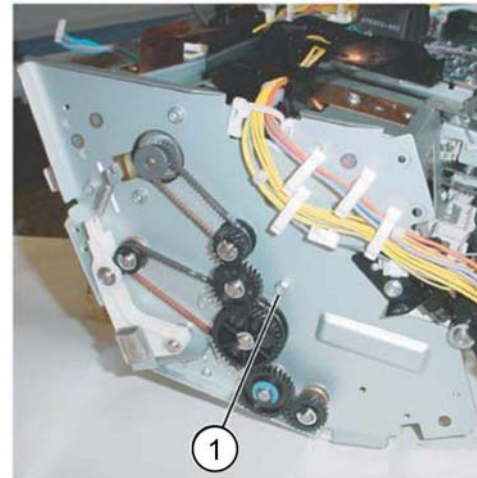

Figure 6 Rear screw removal
12. Remove the rear screw (1), **Figure 6**.